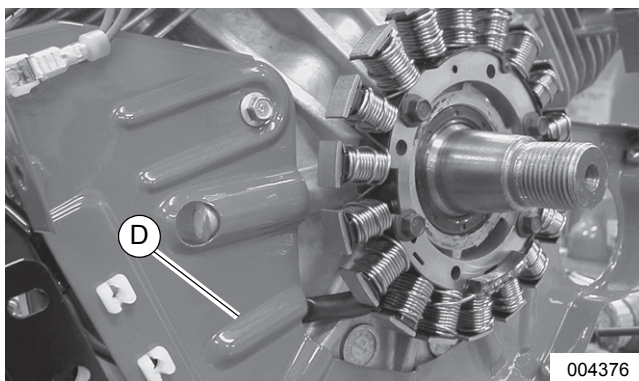

Figure 13-10. Install Alternator
1. See **Figure 13-10**. Install alternator. Tighten screws to 40 in-lb (4.75 Nm) torque.